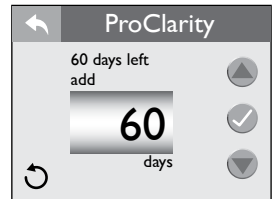

Figure 12.7e
1. From the “Water Care” Menu you can to set the “ProClarity” timer, Figure 12.7e.